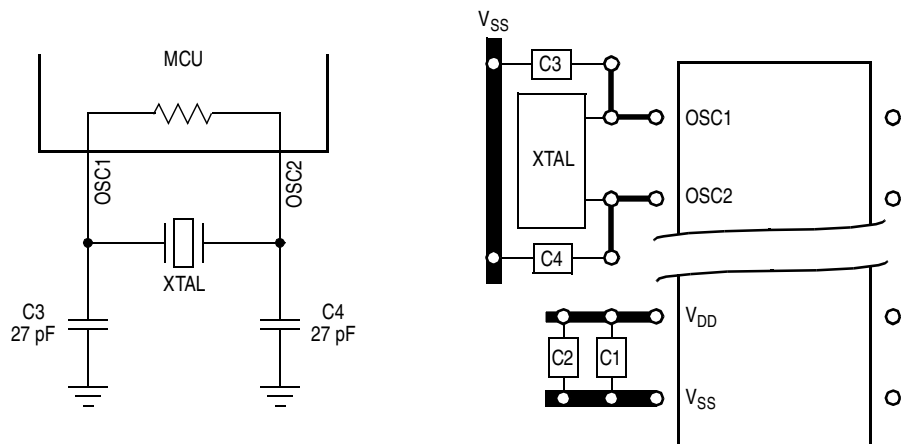
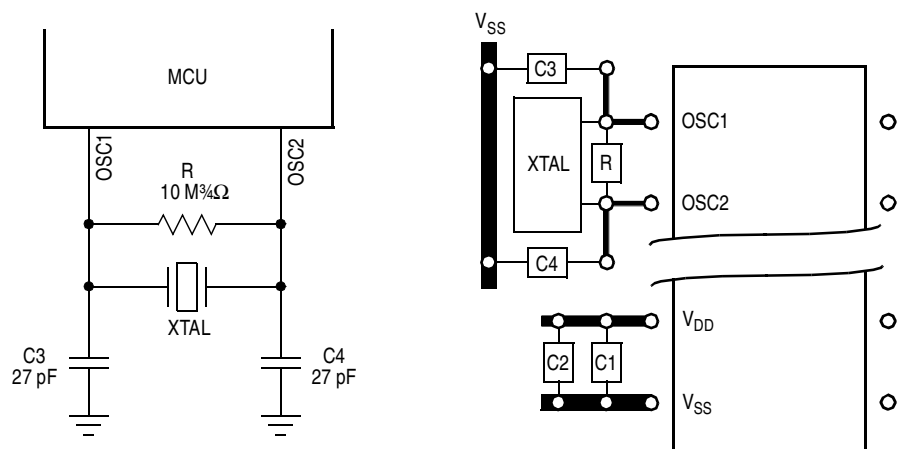

Figure 1-4. Crystal Connections with Oscillator Internal Resistor Mask Option
Figure 1-5. Crystal Connections without Oscillator Internal Resistor Mask Option
1. Crystal (See Figure 1-4 and Figure 1-5.)
Figure 1-4 and Figure 1-5 show a typical crystal oscillator circuit for an AT-cut, parallel resonant crystal. Follow the crystal supplier's recommendations, as the crystal parameters determine the external component values required to provide reliable startup and maximum stability. The load capacitance values used in the oscillator circuit design should include all stray layout capacitances.